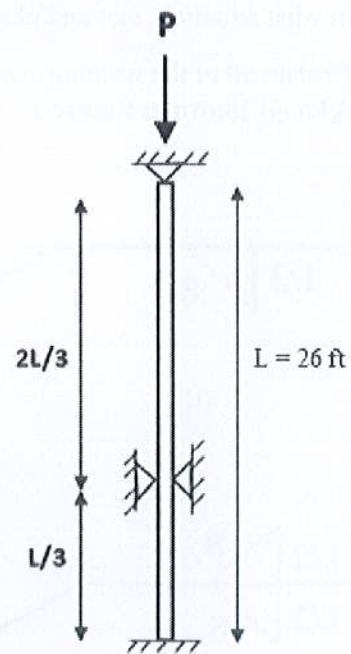

Figure 2
A column is made up by a W14X38 steel section having $F_y = 60$ ksi (**Figure 2**). The top and bottom supports of the column are pinned and fixed, respectively. Along the strong axis direction, lateral pinned support is also provided as shown in the figure. Calculate the allowable compressive load carrying capacity (P) of the column. [15]